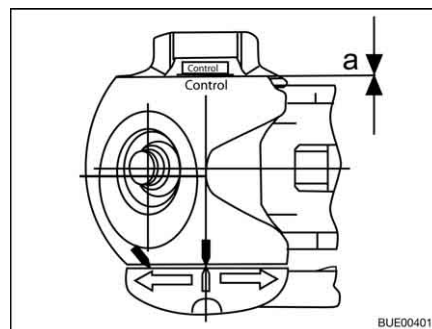

Fig. 189 Friction control
- Distance $a = 0$ (Fig. 189): Check and, if necessary, replace the friction pads.